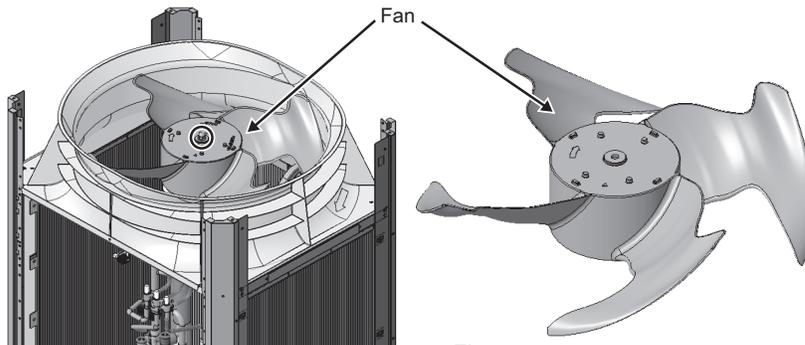

Fig. 7
(7) Remove the fan. (One nut: Fig. 7)